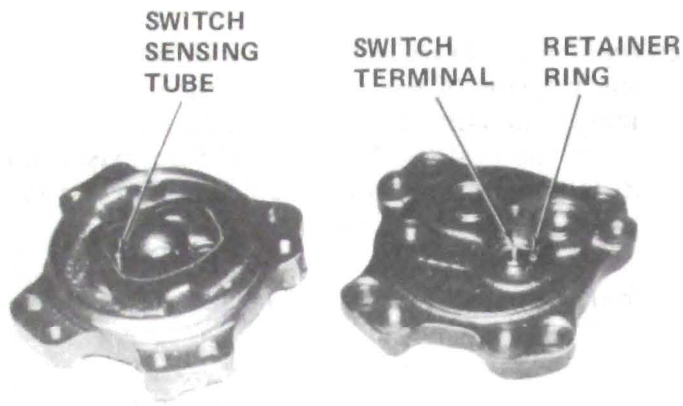

Figure 9B-40 Superheat Shutoff Switch Installed in Rear Head
2. After the system is discharged, remove the superheat switch retainer ring, Figure 9B-40, using Tool J-5403.